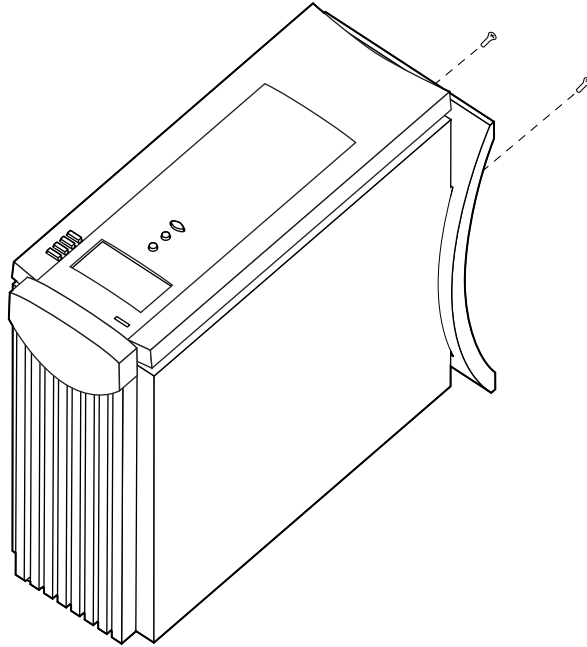

Figure 2-3 Attaching the Fiery XJ BP100 stand
- 1. Set the Fiery XJ BP100 on a flat surface, with the front of the chassis facing up (see Figure 2-3 on page 2-11).**